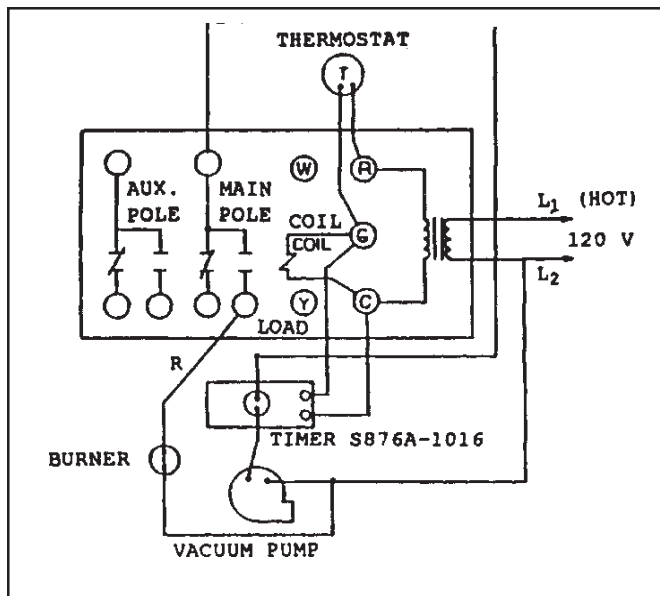

Figure 2.25
3. The system must be installed in accordance with the typical wiring diagrams (see Figure 2.25).